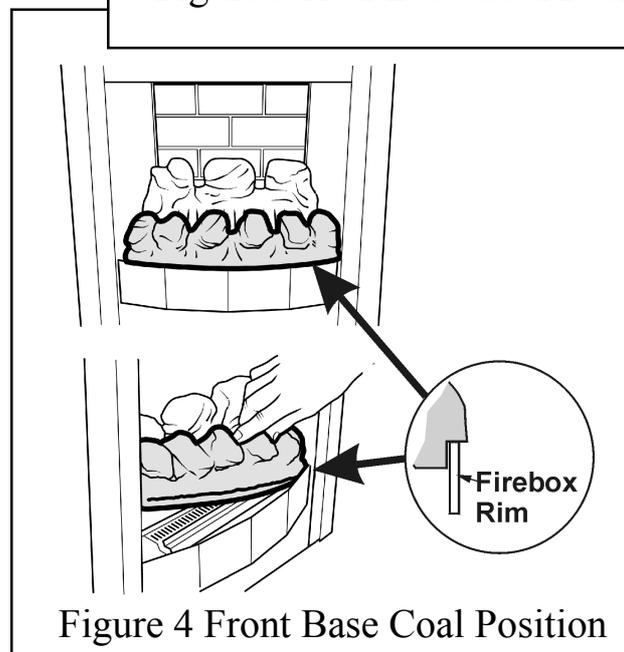

Figure 4 Front Base Coal Position
2. Place the front base coal in the firebox with its bottom front locating over the front rim of the firebox. Pull the coal forward so that it locates immediately behind the front rim of the firebox. See figure 4.